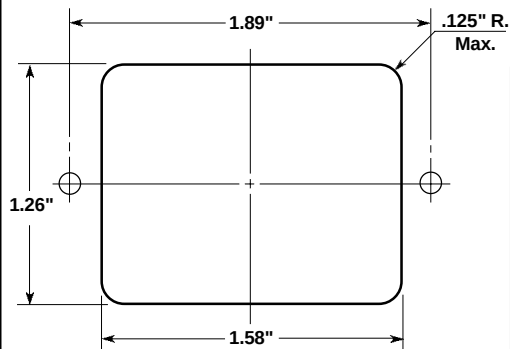

Fig. 1
- Strip each conductor as shown in Fig. 1.
- Polarized** 250 volt — Connect neutral or unswitched conductor (white or blue) to terminal marked (N). Connect line (black or brown) to terminal marked (L).